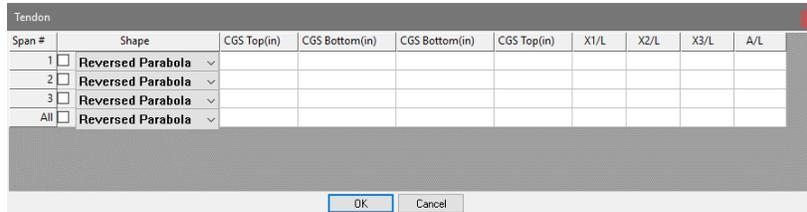

Figure 8-37
- Click on the *Tendon Profile* button to open the window shown in **FIGURE 8-37**.